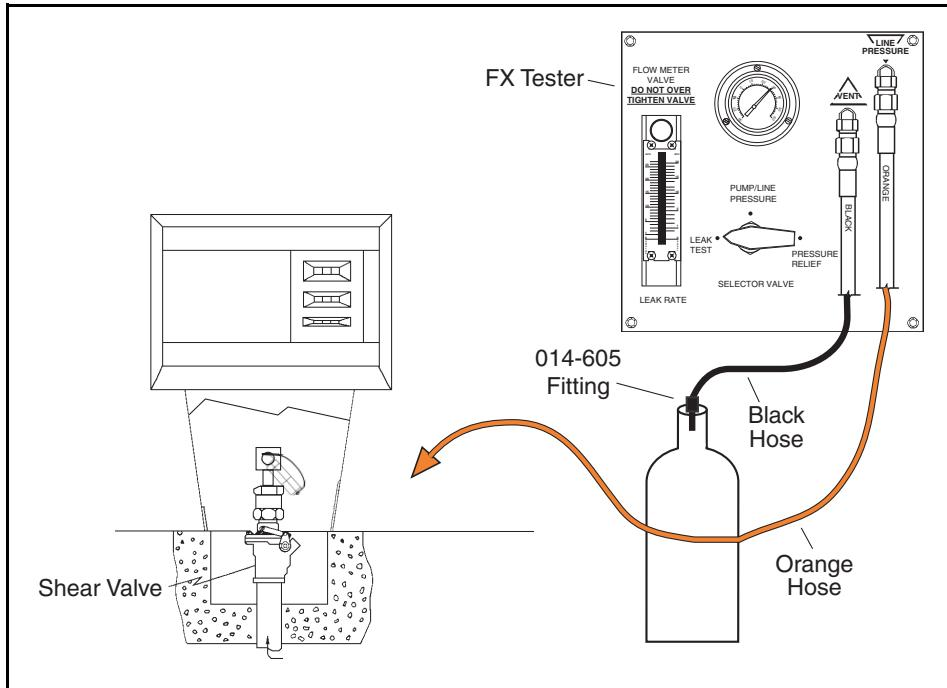

Figure 5. Installing Snap Tap at shear valve
Some submersible pumps are not equipped with tank vents. In this case, the LLD should be tested from the shear valve under the dispenser. A Snap-Tap can be installed in the shear valve (see Figure 5). Once the Snap-Tap is installed, the line can be accessed. A 014-605 fitting must be installed on the black discharge hose to allow flow to occur into the container.
3. Plug the FXT into the Snap-Tap on the dispenser shear valve as shown in Figure 5 on page 14.
For manifolded systems that have two LLDs on a single line and the pumps operate simultaneously, testing must be performed at the impact valve, as shown in Figure 5.